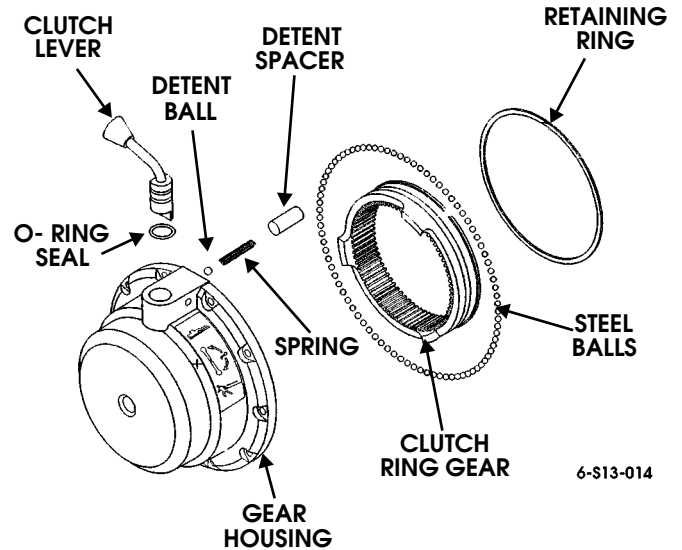

Figure 13-16: Intermediate Ring Gear and Gear Housing
1. Position 85 to 87 steel balls in groove of intermediate ring gear and install intermediate ring gear in gear housing (Figure 13-16).